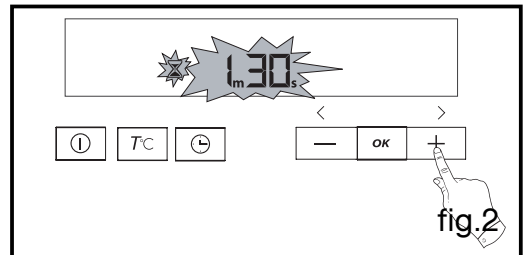

fig.2
- Press the + or - buttons to set the desired time. Example: 30 mins cooking time (fig.2).
Example: end of cooking at 16:00 (fig.2).
- Adjust the chosen time by pressing the buttons + or - (fig.2).